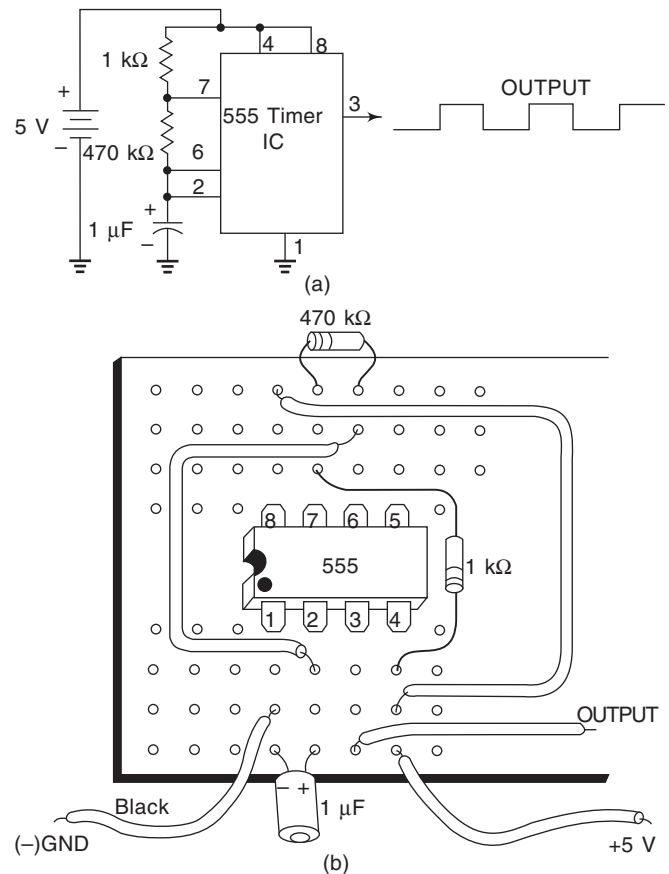

Fig. 7.8 (a) Schematic Diagram of a Free-running Clock using a 555 Timer IC. (b) Wiring the Free-running Clock Circuit on Solderless Breadboard.
A free-running clock will generate a continuous series of pulses. Most digital signals require *precise timing*. Special clock and timing circuits are used to produce clock waveforms to *trigger* the digital signals at precise intervals. Astable, monostable, and bistable multi-vibrators can all be wired using *discrete components*. Because of their superior performance, ease of use, and low cost, the *integrated circuit* (IC) form of these components (Fig. 7.8) is preferred. A schematic diagram for a practical free-running clock circuit is shown in Fig. 7.8(a). This clock circuit produces a *low-frequency* (10 to 20 Hz) TTL output. The heart of the circuit is a common *555 timer IC*. A typical breadboard wiring of the circuit is sketched in Fig. 7.8(b). Pin 1 on the IC is immediately counterclockwise from the *notch* or dot.